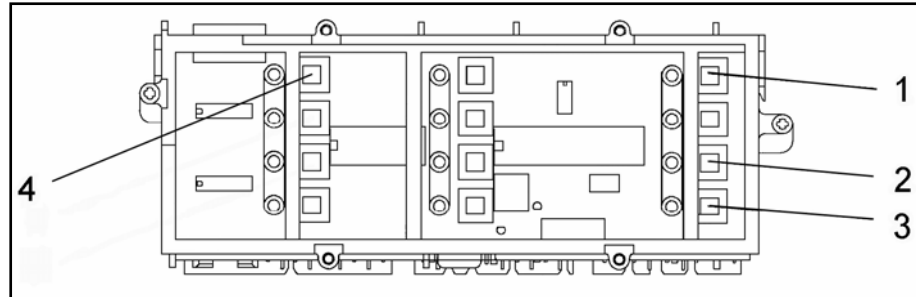

Figure 3-8: Increase Internal Dispensing Dosage
3. Press and hold buttons **1** and **2** together, see figure 3-8, and at the same time turn the machine on. **"P0"** appears in the digital display.
4. When button **4** is pressed, see figure 3-8, **"80"** appears in the display. This indicates that the neutralizer dispenser pump operates for 30 seconds supplying 10 milliliters.
5. Press button **2**, figure 3-8, to change the display to **"81"**. This indicates that the neutralizer dispenser pump operates for 60 seconds, supplying 20 milliliters.
6. To acknowledge and store the selection, press button 3 twice, figure 3-8. **"SP"** is displayed briefly showing that the option has been saved.
1. Press and hold buttons **1** and **2** together, figure 3-8, and at the same time turn the machine on.
2. Press button **4**, figure 3-8. **"80"** or **"81"** is displayed.